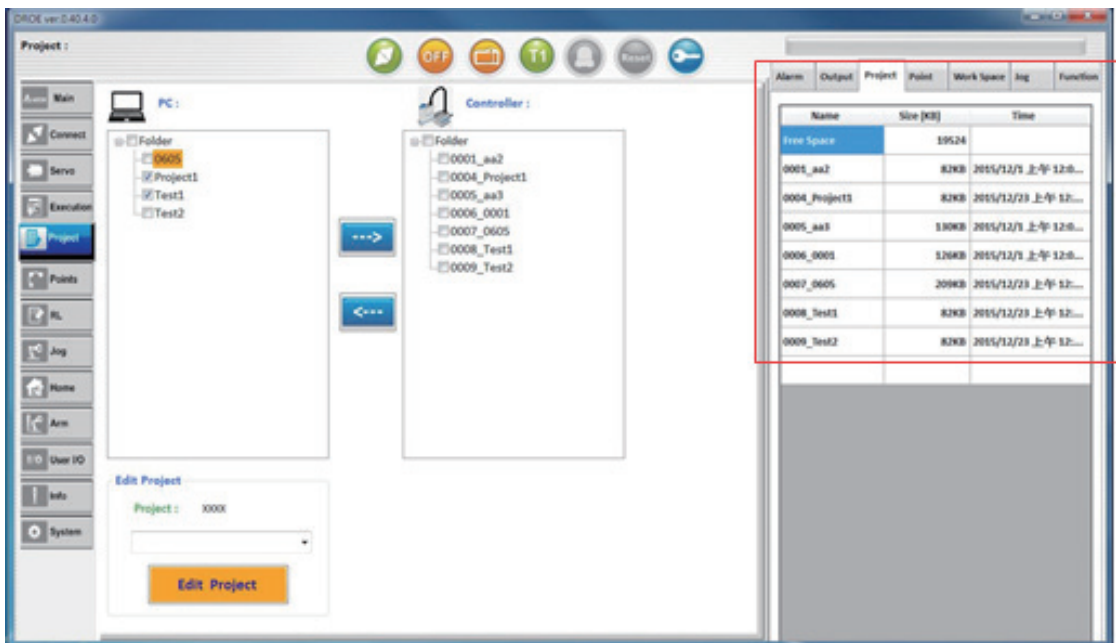

Fig.22 Project Information
- (1) Project information on auxiliary screen will display the remaining size of space on the MS controller for storing projects, and the size and time of the projects uploaded/downloaded from the PC side to the MS controller side, as shown in Fig.22